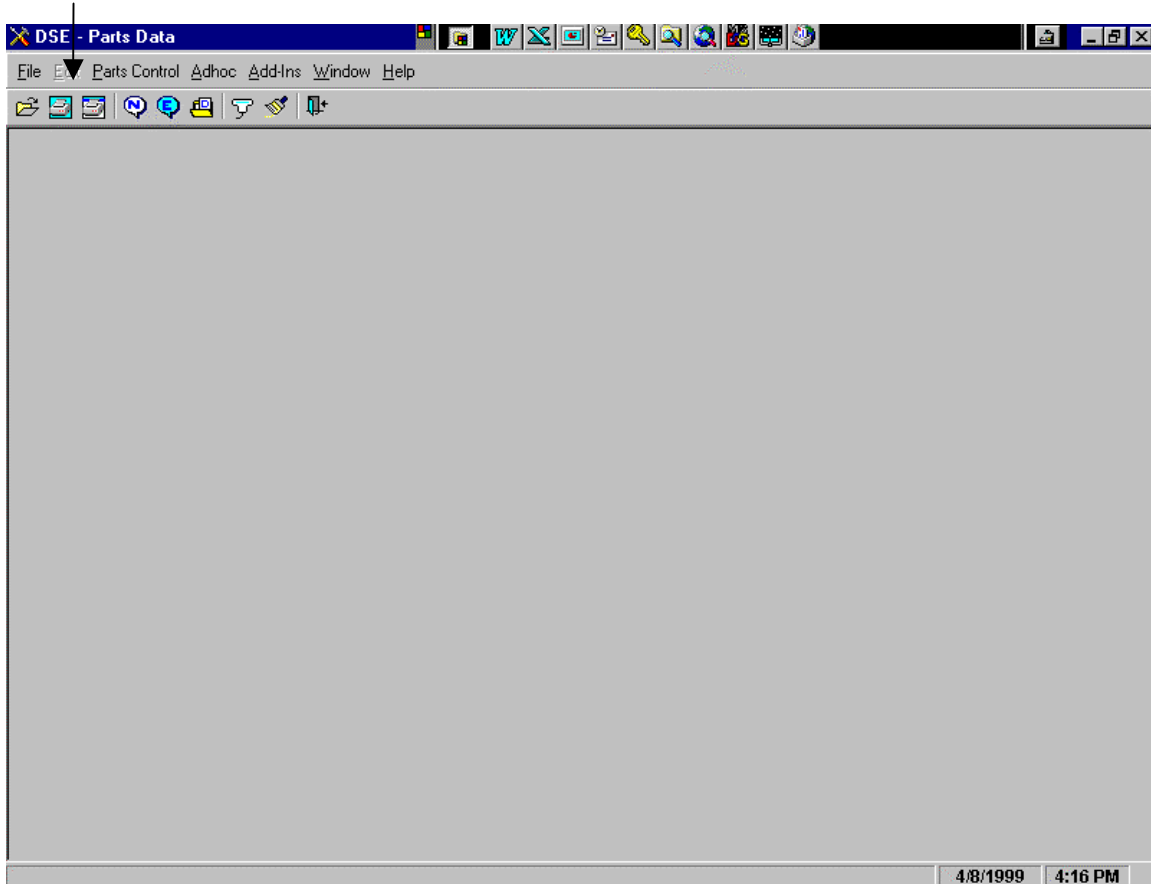

Figure 5.3a
a. Menu Selection - See the next two figures below (Figures 5.3a and 5.3b). Select Adhoc with the mouse, clicking once to display the drop-down menu OR, select by clicking once on toolbar icons. Arrow points to the print capability icons. The first is used to print the screen and the second is to print the active window.